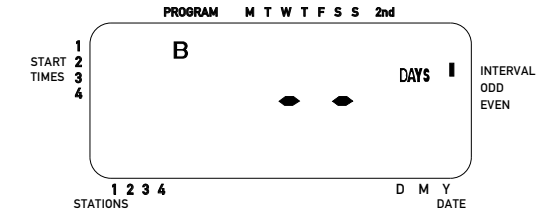

Figure 7: LCD Display with Watering Interval
- Turn the rotary dial to **WATERING INTERVAL**. The cursor will blink to the left of the word Interval. [See Figure 7]